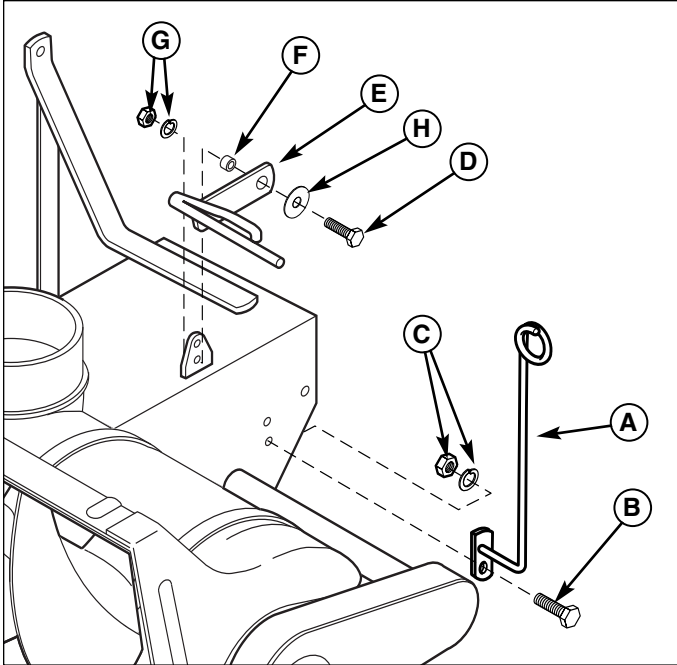

Figure 14. Deflector Control Cable Support Arm
1. Assemble the deflector control cable support arm (A, Figure 14) to the left side of the snowthrower using one 5/16-18 x 1" capscrew (B), lockwasher, and nut (C) using the holes shown.
2. If not already done, install the lift assist lever (E) using a 3/8-16 x 1-1/4 capscrew (E), large washer (H), spacer (F), lockwasher & nut (G).